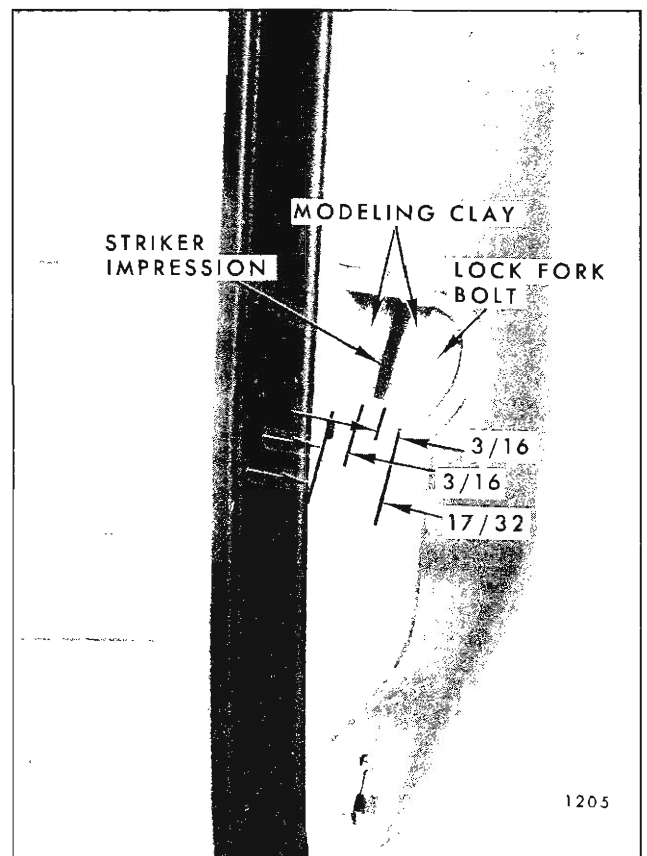

Fig. 5D9—Door Lock Striker Engagement
- c. Close door only as far as necessary for striker bolt to form an impression in clay or caulking compound as shown in Figure 5D9.